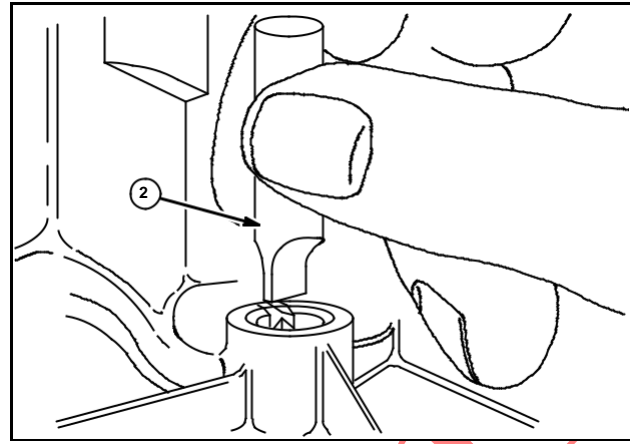

Fig. 5
Check cam gear bearing using Tool #19164, Plug Gauge (2), as shown, Fig. 5. If 1/4" (6 mm) or more of gauge enters bearing bore, bearing is worn beyond reject, and the cylinder, sump or crankcase cover must be replaced.